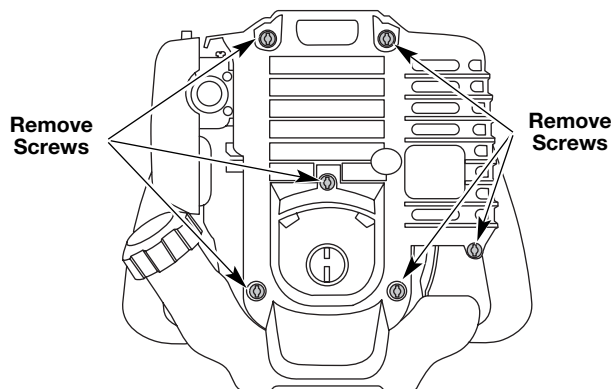

Fig. 27
1. Remove the six (6) screws on the back of the engine cover with a Flat-head or T-25 Torx screwdriver (Fig. 27).
4. Remove the engine cover (Fig. 27).